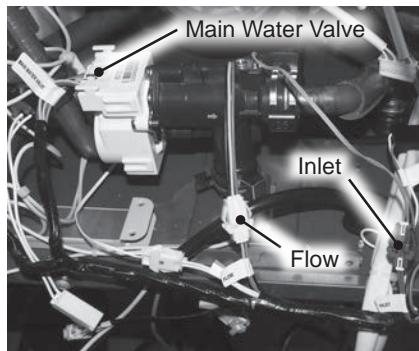

Figure 174 - Locating wiring harnesses
14 Locate the flow control valve behind the user interface module (UIM) bracket in the water heater as shown in Figure 174. Disconnect the three (3) wiring harnesses to the valve marked:
22 Reconnect the three (3) wiring harnesses to the flow control valve previously disconnected in **Step 14**. Confirm wiring connections are secure. See Figure 174.